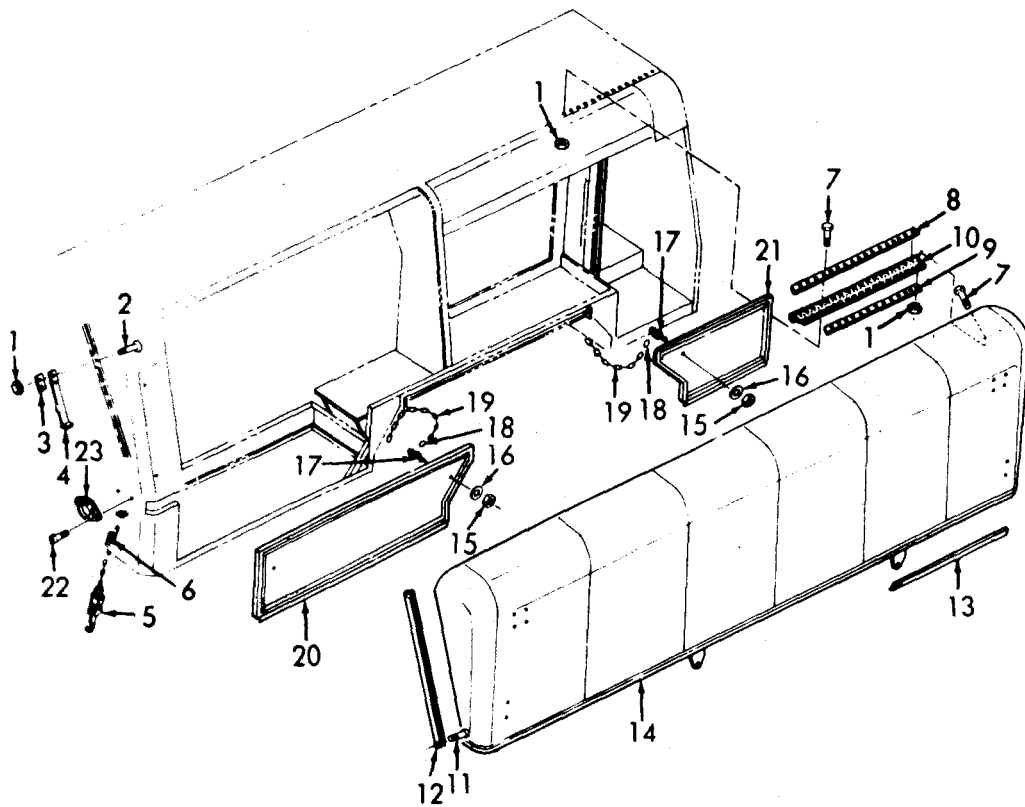

Figure 15-1. Side Doors, Removal and Installation,
- b. Removal. Support the door to prevent damage prior to removing hardware. Remove the doors as illustrated by figures 15-1 and 15-2.
- (1) Clean doors with approved cleaning solvent and dry thoroughly.
- (2) Inspect doors for cracks, breaks, dust, rust, and other damage or defects,
- (3) Break rivets if necessary to make repairs. Straighten bends, weld cracks and breaks. Replace defective hinges.
- d. Installation. Install the doors as illustrated by figures 15-1 and 15-2.
LEGEND FOR FIGURE 15-1: